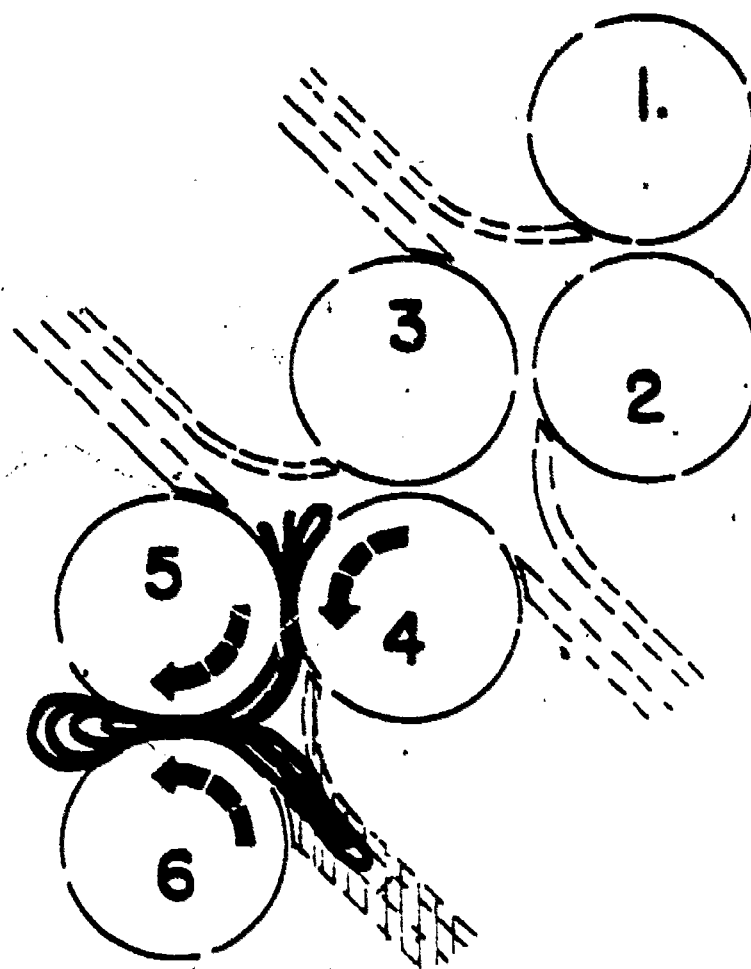

Figure 9-8. Step 6: Sheet is buckled by fold plate number 4 and carried between the fifth and sixth rollers.
f. *Step 6.* The fourth and fifth rollers then drive the sheet into the number 4 fold plate where it strikes the fold plate gage, buckles, and is drawn between and folded by the fifth and sixth rollers. The sheet is advanced by the same rollers to the slitter shafts where the signature is now scored, perforated, slit, or trimmed, to meet job requirements (fig. 9-8).